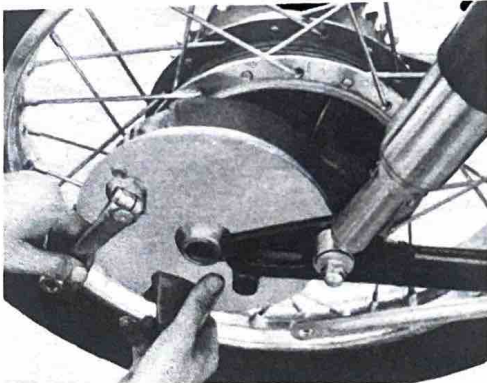

Fig. 5-2-9
- 6) Remove the rear brake plate. (Figs. 5-2-9 and 10)